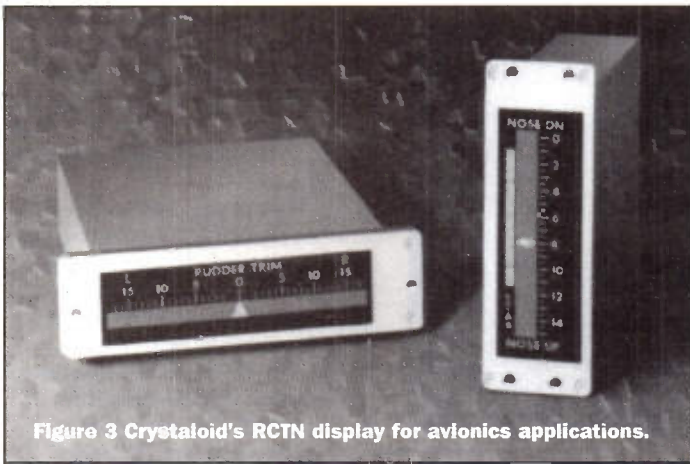

Figure 3 Crystaloid's RCTN display for avionics applications.
Several companies have developed modern versions of Twisted Nematic (TN) displays including Crystaloid in Ohio, USA. Their popular Reverse Contrast Twisted Nematic TM (RCTN TM) LCDs have extra wide viewing angles and high contrast ideal for avionic applications and have been used by aviators since 1994. Aircrew may need to glance over to displays at quite large incident angles to ascertain certain flight critical information (see Figure 3). NASA has taken this requirement a stage further for modifications on the recently refitted Space Shuttle Columbia, the oldest of the four shuttles and a veteran of 26 flights that should be completed by July 2000. The orbiter has been outfitted with a Multifunctional Electronic Display System (MEDS) or 'glass cockpit' - see Figure 4. Columbia follows the Shuttle Atlantis, which now has full-colour, flat-panel liquid crystal